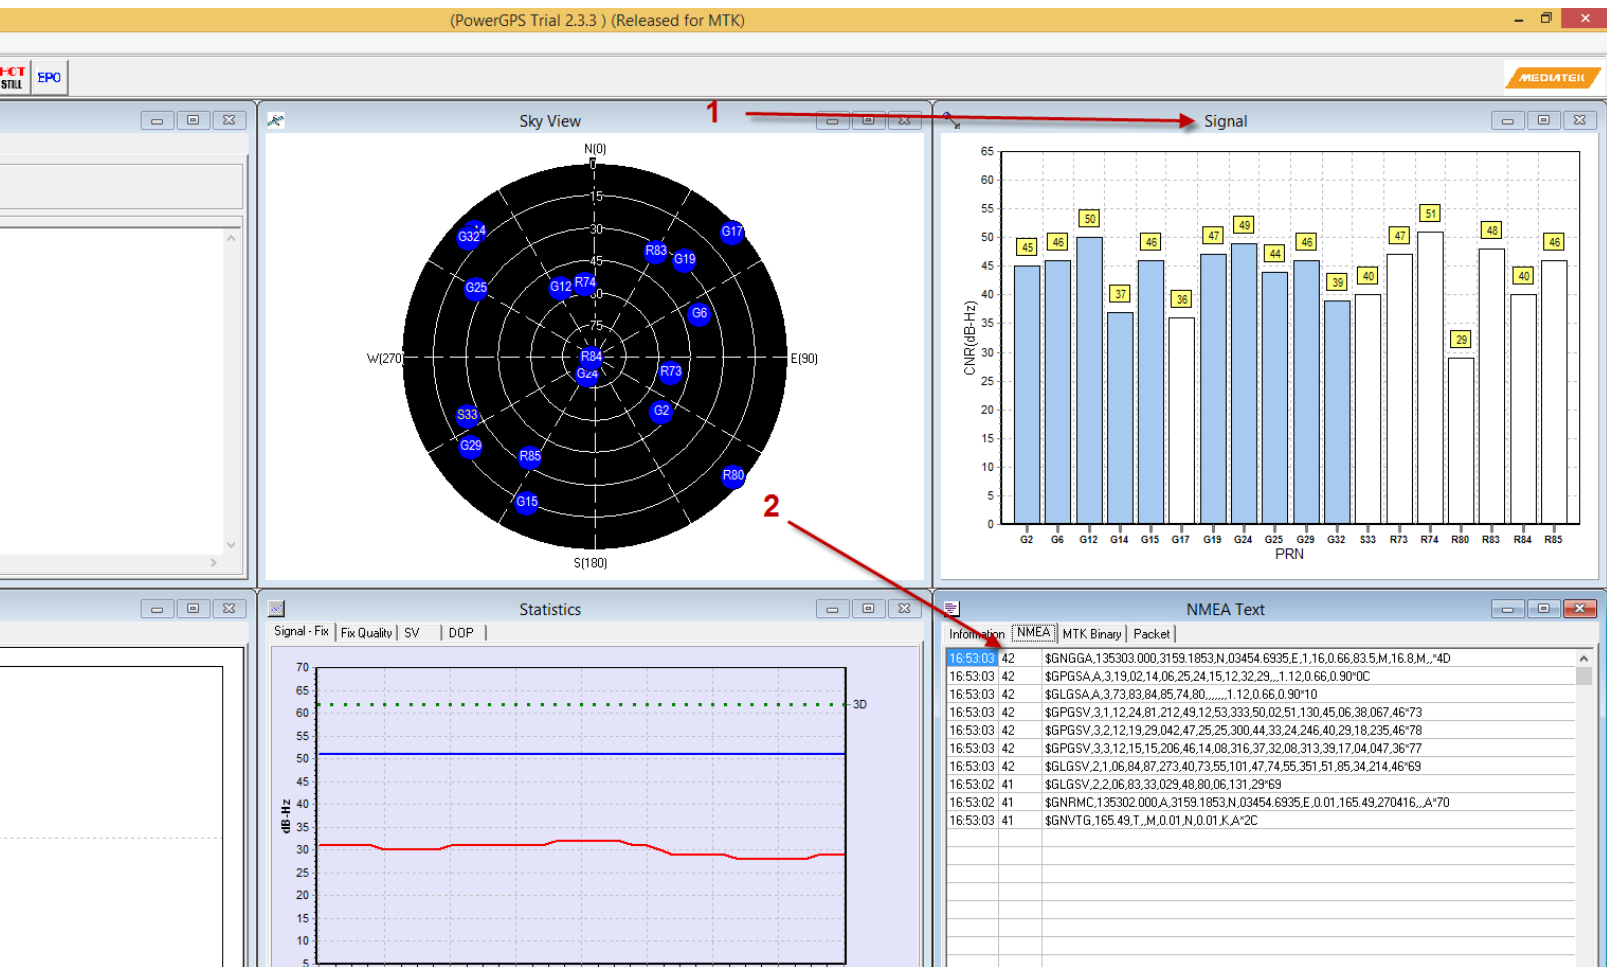

Figure 2 – PowerGPS software screen
1. SNR bars in the “Signal” window (figure 2).
2. NMEA messages running in the “NMEA Text” window (figure 2).